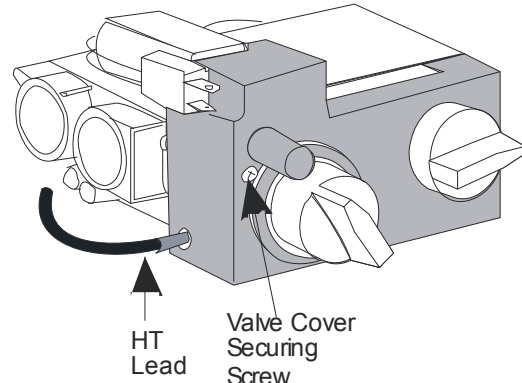

Figure 78
- Pull out the HT lead from the side of the valve cover (see **Figure 78**).